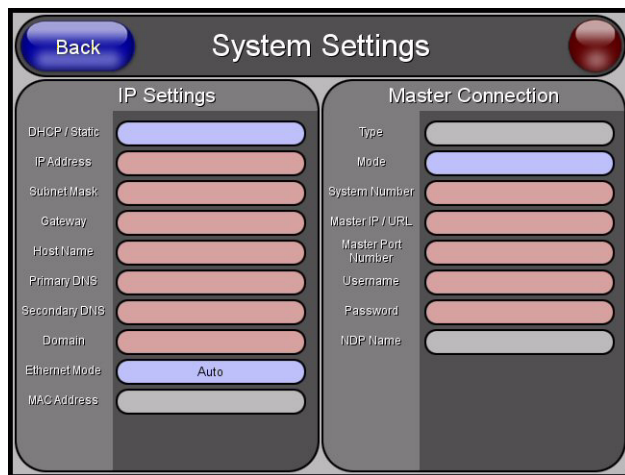

FIG. 24 System Settings page
- Press the **System Settings** button (located on the Protected Setup page) to open the System Settings page (FIG. 24) and begin configuring the communication settings on the TPI-PRO to match those of the target Master.